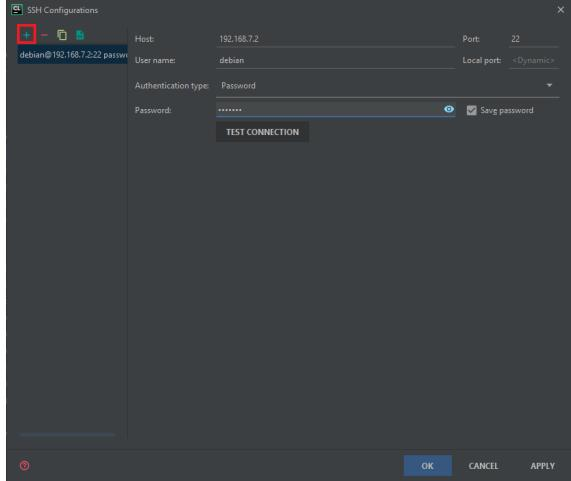

Figure 4.12: CLion Remote Toolchain Credentials Screen
5. Add device credentials just like PuTTY (Fig. 4.12).